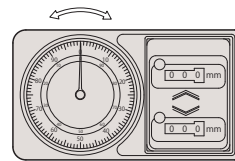

Fig. 1
5. Bring the measuring face of the scriber into contact with the surface plate and set the dial pointer and counters at zero to perform the zero point setting. **(Fig. 1)**